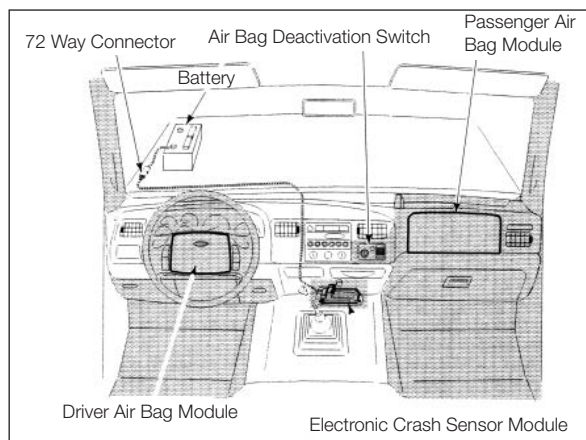

Figure 59
2. Locate a position in the cab for mounting the PTO switch and mounting bracket. The shaded area in (Fig. 59) shows the Occupant Protection Zone of the deployed air bags that are available in these vehicles.